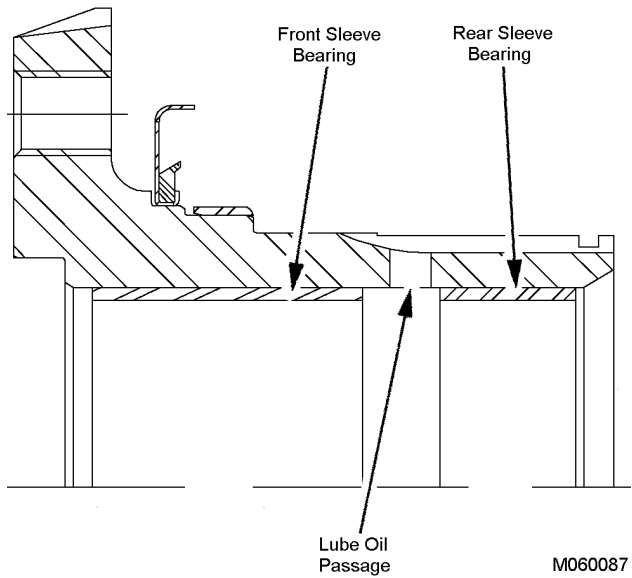

FIGURE 7-40.
3. Using tooling (A), press front (long) sleeve bearing (44) into the fan mounting hub until the tool contacts the shoulder of the hub. Ensure the correct bearing is installed. There are two sleeve bearings, and each one must be installed in the proper area of the hub to ensure the lube passage is not restricted. Refer to Figure 7-40.
4. Turn the hub over on the bed of the press. Again using tooling (B), press rear sleeve bearing (41) into the fan mounting hub until the tool contacts the shoulder of the hub.